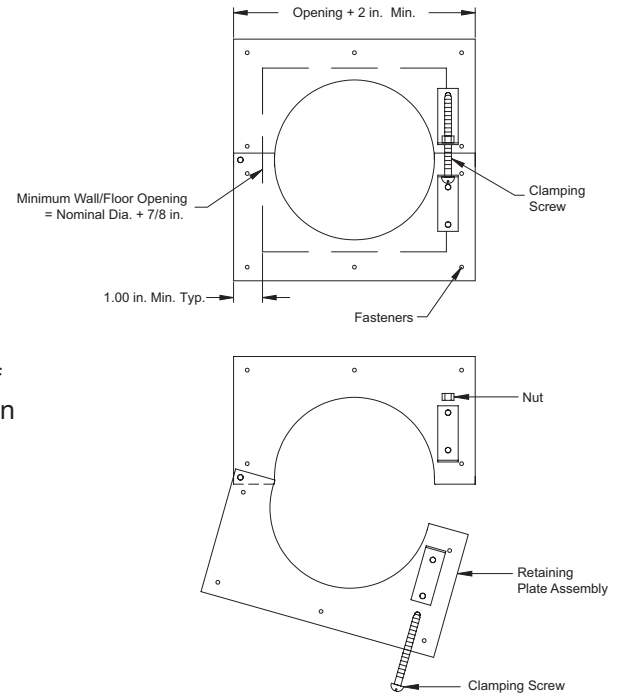

Figure 5: Retaining Plates
- The retaining plate(s) will open up for easy installation when the clamping screw is loosened. If necessary, remove the clamping screw and nut (see **Figure 5**).